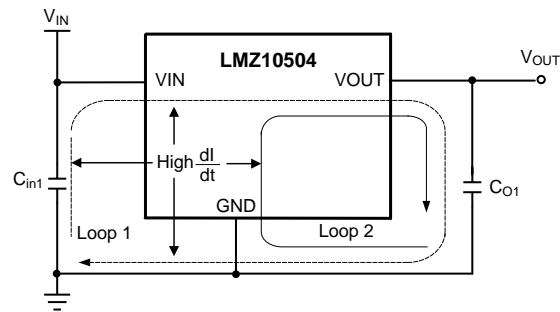

Figure 29. Critical Current Loops to Minimize
From an EMI reduction standpoint, it is imperative to minimize the high di/dt current paths. The high current that does not overlap contains high di/dt, see Figure 29. Therefore physically place input capacitor (C_{in1}) as close as possible to the LMZ10504 VIN pin and GND exposed pad to avoid observable high-frequency noise on the output pin. This will minimize the high di/dt area and reduce radiated EMI. Additionally, grounding for both the input and output capacitor should consist of a localized top side plane that connects to the GND exposed pad (EP).